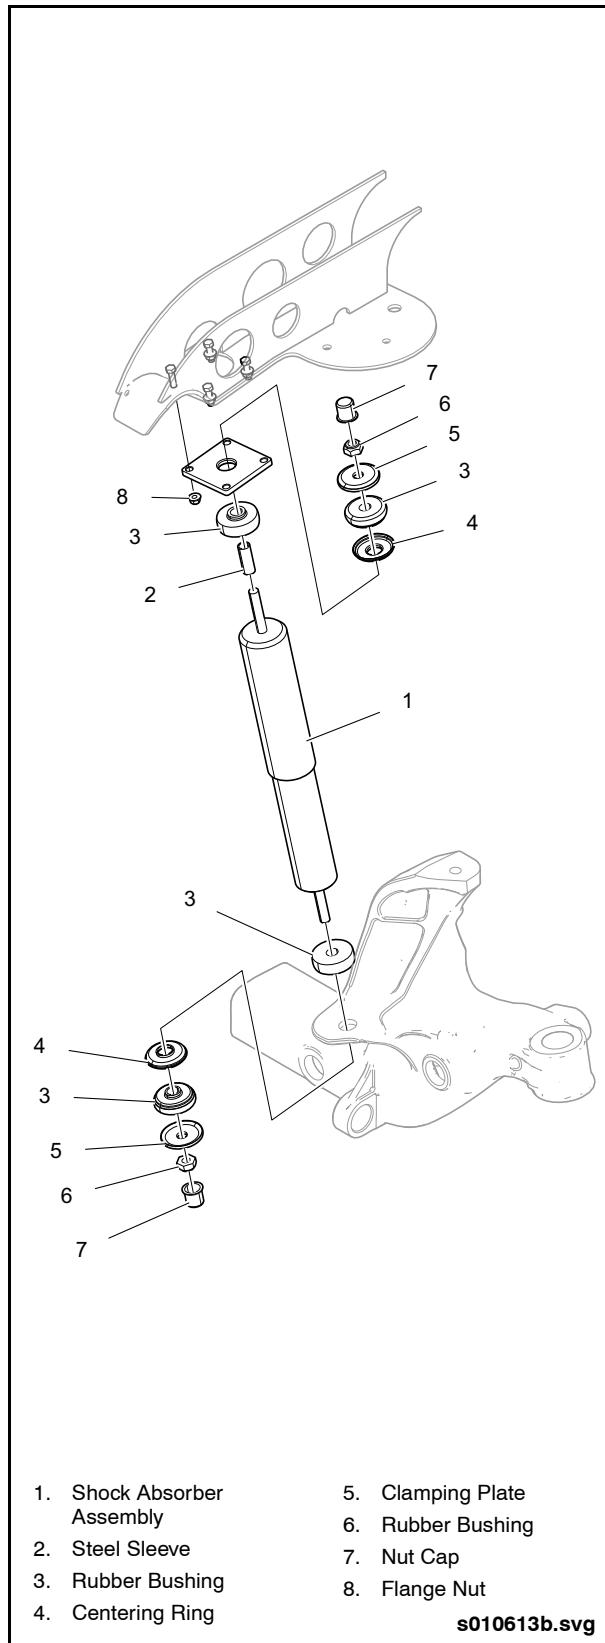

Fig. 1-39: Shock Absorber Installation
2. Remove the four nuts retaining the upper shock mounting plate to the chassis bracket. See "Fig. 1-39: Shock Absorber Installation" on page 42.